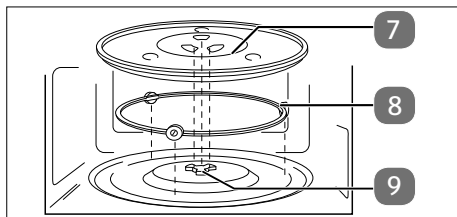

Fig. 5 – Inserting the glass turntable
- ▶ Place the roller ring in the recess in the microwave and then place the rotary plate in the middle of the drive shaft (see Fig. 5) so that the webs of the glass turntable lie between the wings of the drive shaft.